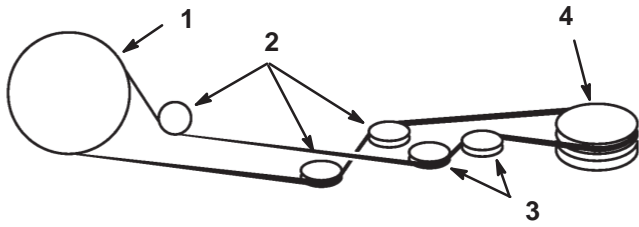

Figure 19
10. Route belt around upper pulley groove of electric clutch and idler pulleys (Fig. 19).
11. Hold the belt in the tiller drive pulley groove and rotate the pulley to install belt (Fig. 19).
12. Check that belt is properly routed around all pulleys and belt guides (Fig. 19).